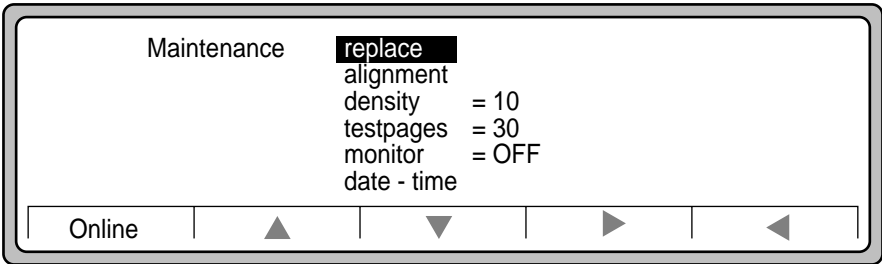

Figure A-3 Maintenance Submenu
3. Select **Replace** and press the **Right Arrow** button. See Figure A-3.